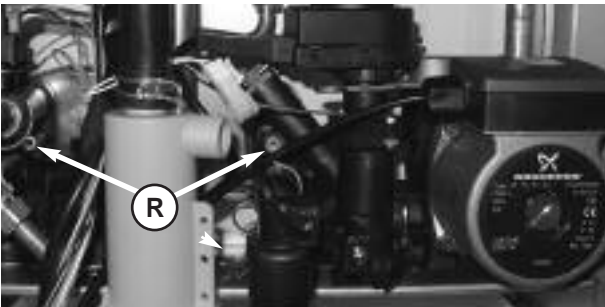

Fig. 90
4. Unscrew the two fixing screws R (see Figs. 90);
5. Unscrew the two fixing screws R and pull the heat exchanger toward you (see Figs. 90 & 91);